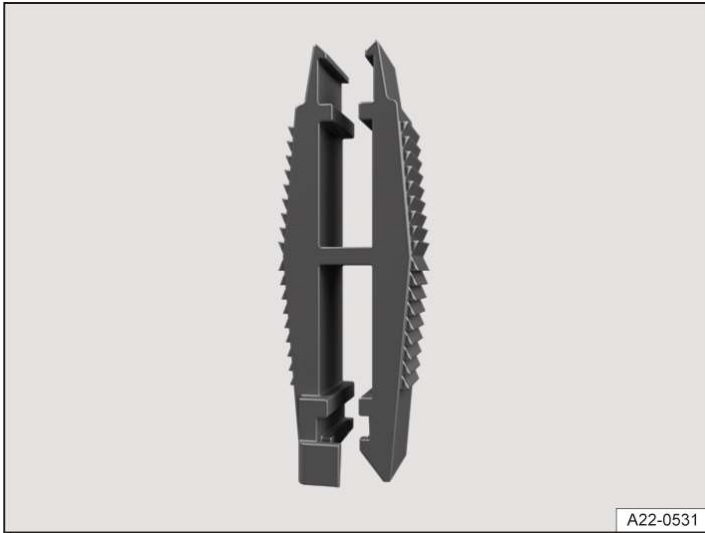

Fig. 2 Plastic grippers for pulling out and inserting a fuse (illustration).
1. If present, take the plastic grippers out of the fuse box or the cover of the fuse box → *Fig. 2*.